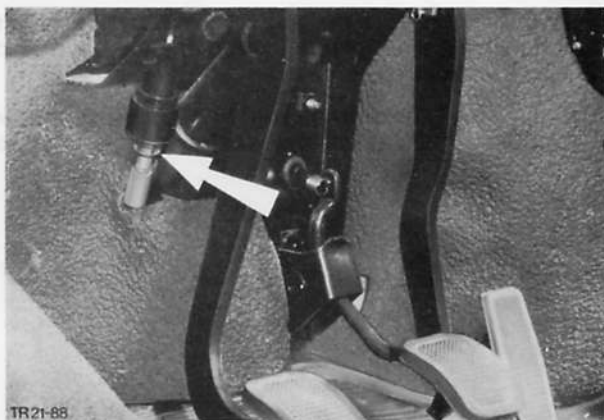

Fig. 29. Adjust clutch cable clearance
29. Adjust clutch cable clearance at pedal bracket, Fig. 29.